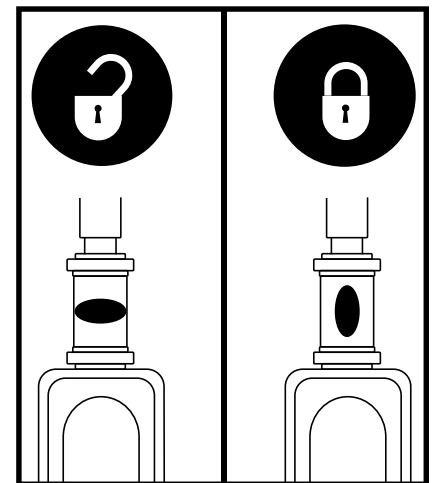

Figure 32. Tiller Lock Knob
2. Lock the tiller in the straight ahead position by pushing the tiller lock knob in and turning it clockwise 90°. See **figure 32**. The front wheel must face forward in order to lock the tiller.
1. Remove the key from the key switch and then lock the tiller in the straight ahead position by pushing the tiller lock knob in and turning it clockwise 90°. See **figure 32**. The front wheel must face forward in order to lock the tiller.
6. Unlock the tiller by turning the tiller lock knob 90° counterclockwise. See **figure 32**.